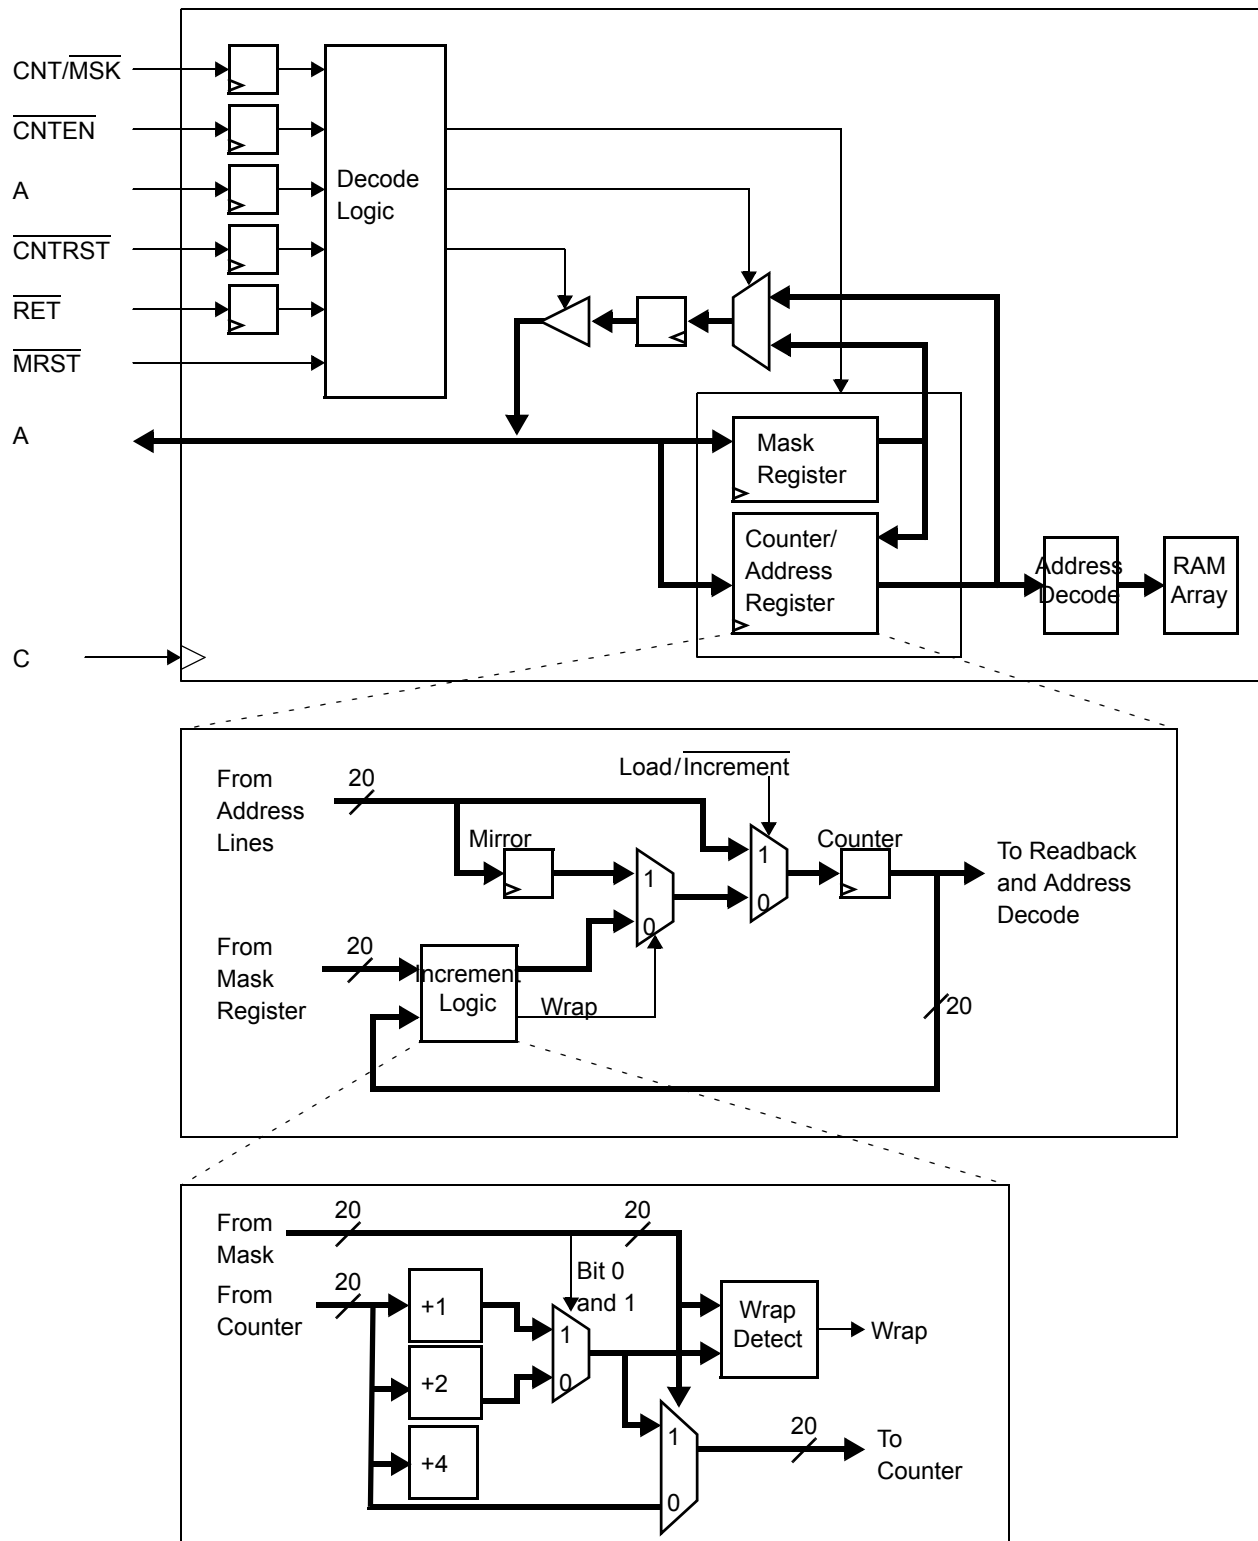

Figure 3. Counter, Mask, and Mirror Logic Block Diagram^[1]
The internal value of the counter register can be read out on the address lines. The address will be valid t_{CA} after the selected number of latency cycles configured by FTSEL. The data bus (DQ) is tri-stated on the cycle that the address is presented on the address lines. Figure 3 shows a block diagram of this logic.
The internal value of the mask register can be read out on the address lines. The address will be valid t_{CA} after the selected number of latency cycles configured by FTSEL. The data bus (DQ) is tri-stated on the cycle that the address is presented on the address lines. Figure 3 shows a block diagram of the operation.